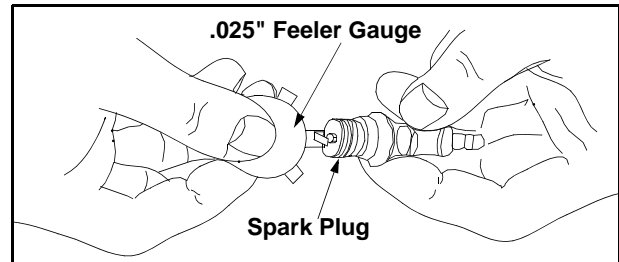

Figure 11
- Set the air gap at 0.025 in (0.655 mm.) using a feeler gauge. See Figure 11.